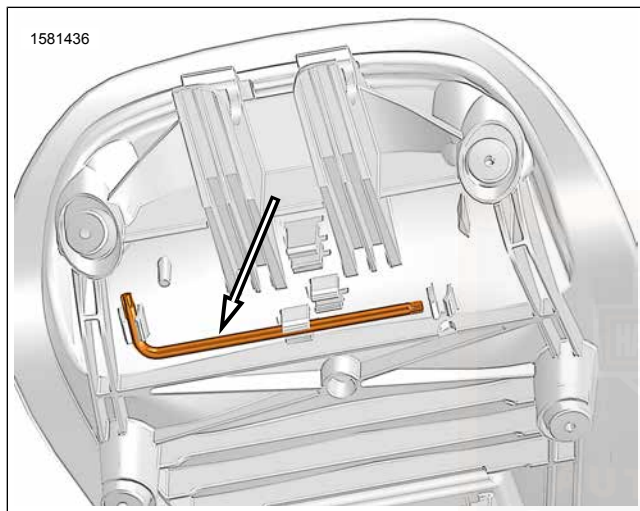
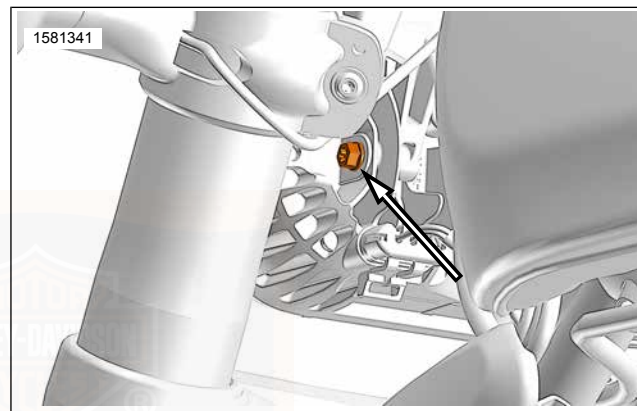
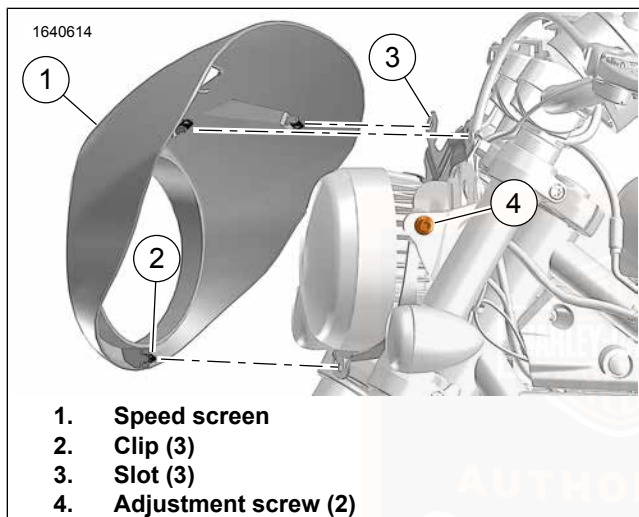

Figure 91. Headlight Adjustment Tool (If Equipped)
Figure 92. Headlight Adjustment Screw: RH1250S (left side shown)
Figure 93. Headlight Adjustment Screw: RH975 (left side shown)
See Figure 91. Some models are equipped with headlamp adjustment tool.
1. **Nightster (RH975):** See Figure 93. Remove speed screen (1).
- a. Pull speed screen forward to release clips (2).
3. See Figure 91. **If equipped:** Remove headlight adjustment tool from bottom of seat.
4. See Figure 92 or Figure 93. Loosen screws on left and right sides of headlamp.
9. **Nightster (RH975):** See Figure 93. Install speed screen (1).